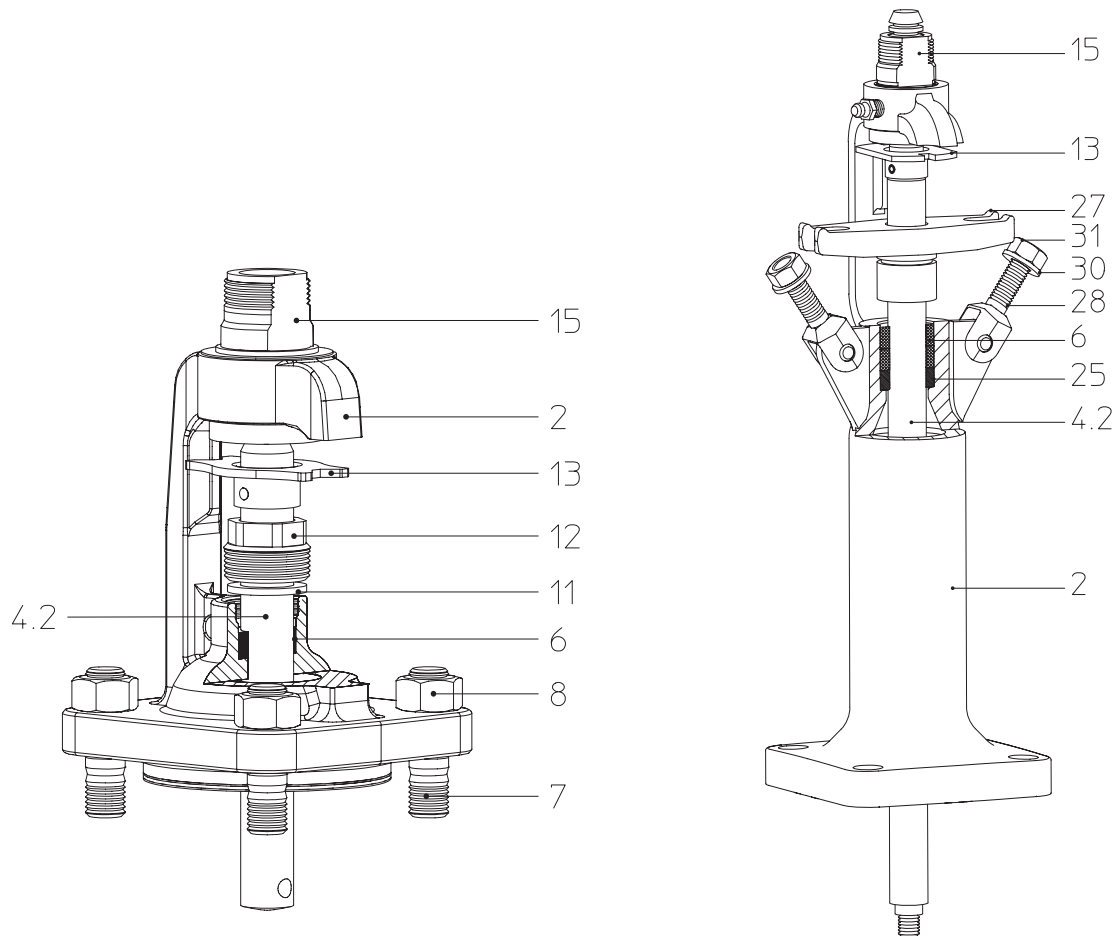

Fig. 10 FABA[®]-Plus:
If the stem (pos. 4.2) starts leaking, tighten the bolted gland (pos. 12) until leaking stops (Fig. 10). Replace bonnet at earliest opportunity!
Gland screw (pos. 12, Fig. 10) slack	Tighten gland screw (pos. 12, Fig. 10) until leakage stops; Replace bonnet at earliest opportunity!
If necessary, renew packing in stuffing box seal (pos. 6); Observe warnings (Fig. 11 - Fig. 10)!